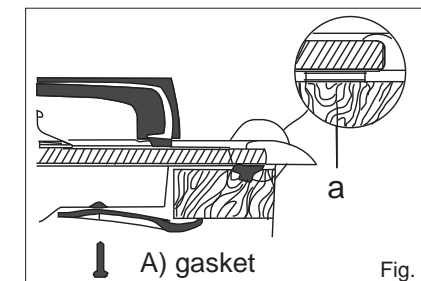

Fig. 3
- 3) Place the hob in the installation opening and push it down so that the hob is resting firmly on the cabinet, as shown in the illustration (fig.3). The side springs will hold it in place.